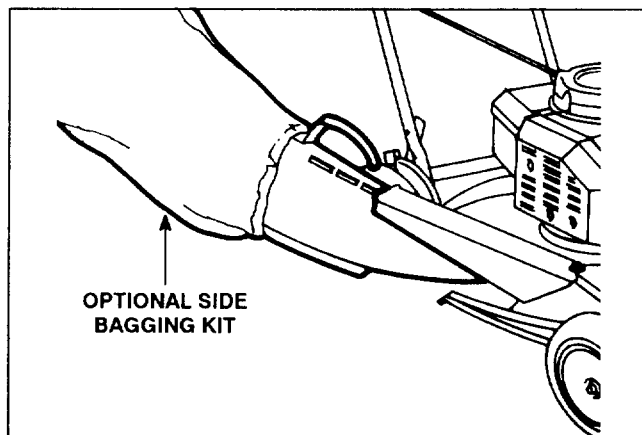

Figure 24
**47–6510**—Side bag kit (Fig. 24) lets you bag lush grass in spring to help keep your lawn free of clippings. In the fall, bag leaves while you mow to eliminate the hand-blistering raking job.